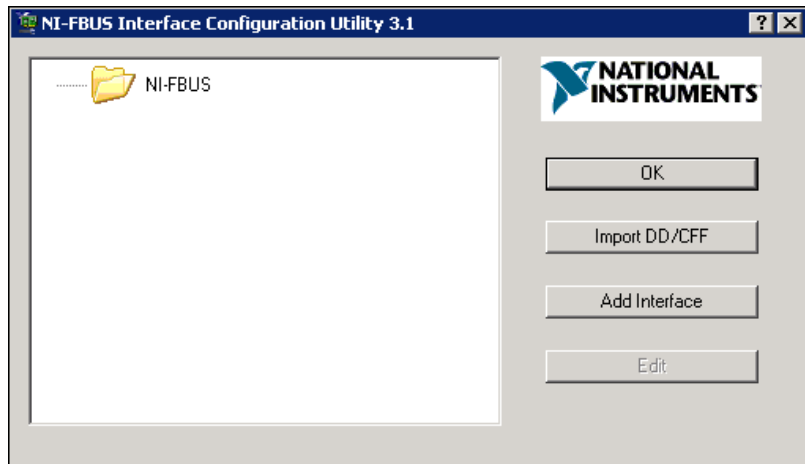

Figure 2-1. The NI-FBUS Interface Configuration Utility
5. At the end of the setup, the installer starts the NI-FBUS Interface Configuration Utility as shown in Figure 2-1. If you have not yet installed your HSE linking device, click **OK** to return. You will install your HSE linking device in a later step.